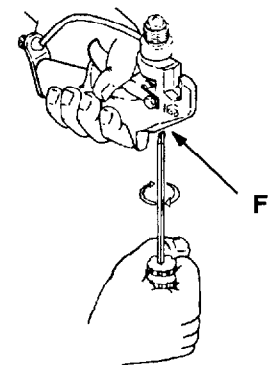

Fig 5
driver into the rear port of the gun until it engages with the slot (F) at the back of the needle. See Fig 5.